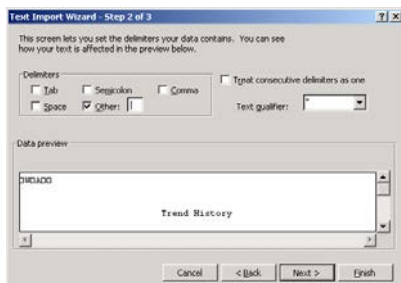

Figure 20. Specifying the Delimiter
5. Click *Next>* to display Step 2 of the Import Wizard seen in Figure 20. Specifying the Delimiter, below.